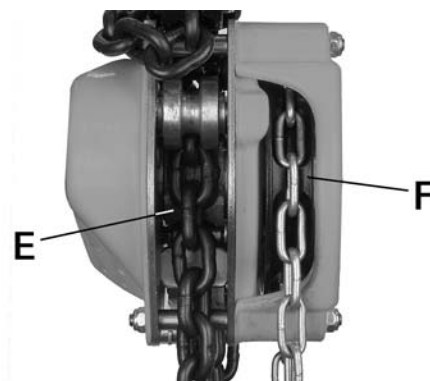

Figure 11
8. If installing entire new chain, insert end of hand chain into groove at top of hand chain wheel (see Figure 11). Rotate handwheel and pull chain through.
Install new load chain onto load chain sprocket as follows, referring to Figure 11: